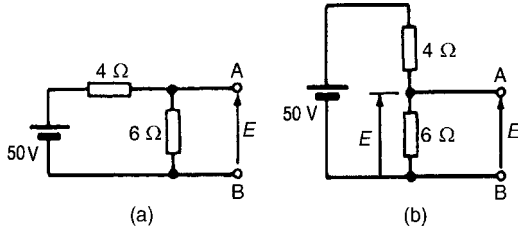

Figure 13.30
- (ii) The open-circuit voltage,  $E$ , across terminals AB in Fig. 13.30(a) is the same as the voltage across
the 6 Ω resistor. The circuit may be redrawn as shown in Fig. 13.30(b)